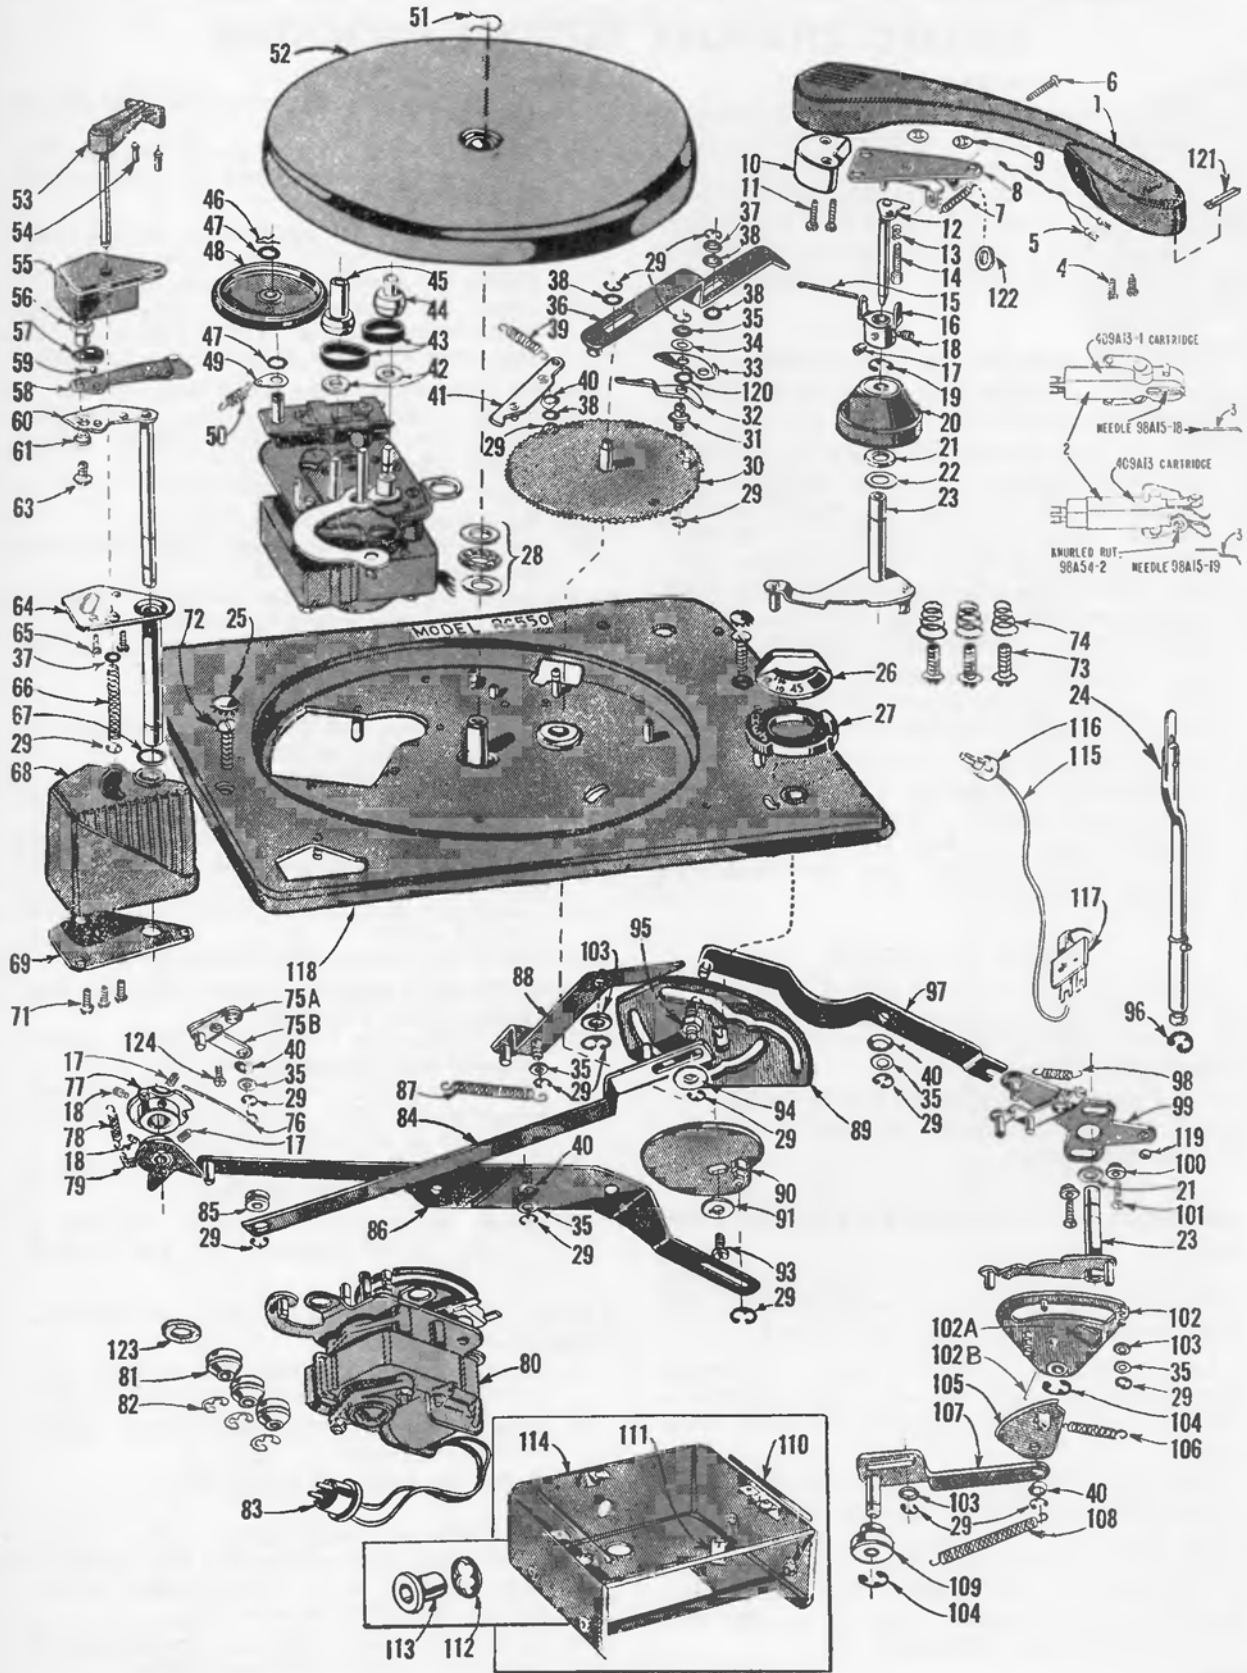

Figure 9. RC550 Record Changer, Exploded View.
Early production record changers (below Run 5) used a drive gear and stud assembly (30) with a removable pivot stud (31), see figure 9.